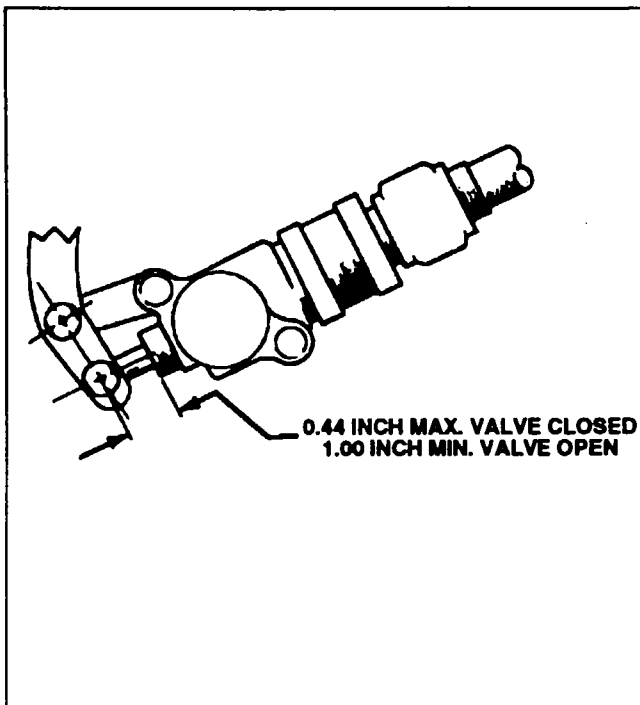

Figure 9-10. Adjustment of Crossfeed Valve
- d. Assemble the control cable clevis on the arm of the crossfeed handle. Adjust the clevis end of the control cable to obtain a maximum of seven-sixteenths of an inch between the center of the pin that goes through the valve and valve body. (Refer to Figure 9-10.)